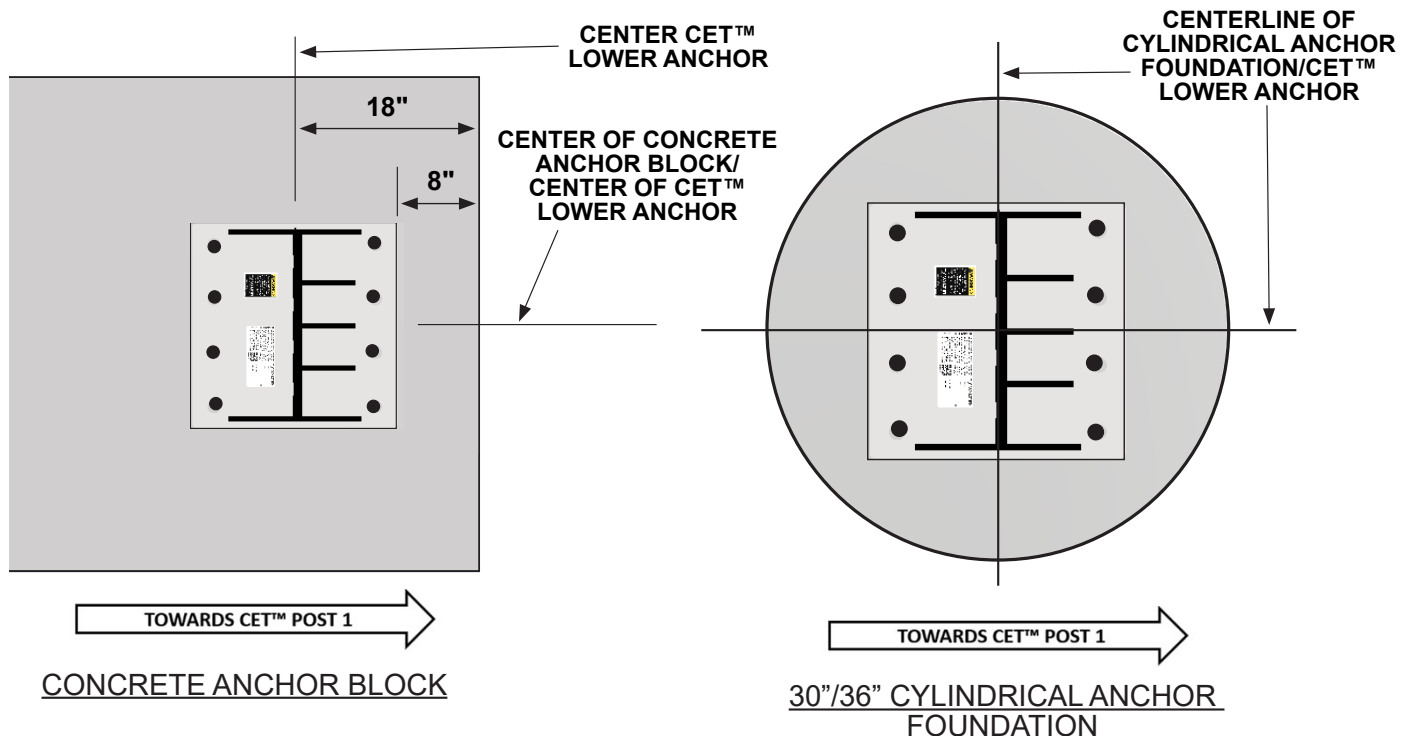

Figure 5
2. Place the CET™ Lower Anchor on the anchor Block or concrete cylindrical anchor foundation as shown in Figure 5.
3. Leaving the CET™ Lower Anchor in place, drill the eight (8) 1 1/8" [29 mm] diameter x 10" [234 mm] deep holes for the threaded anchor rods (PN: 118352G).